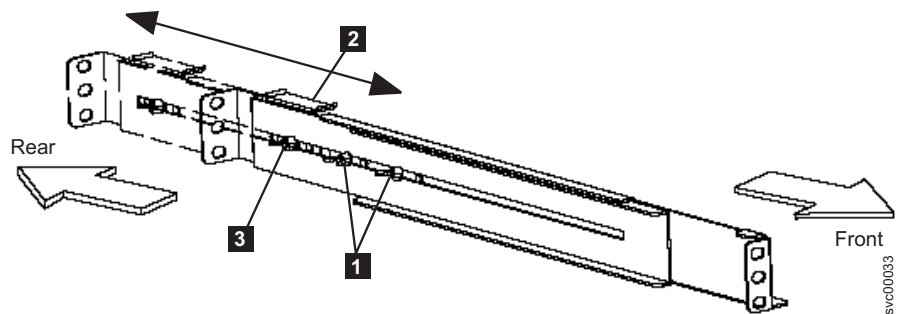

Figure 279. Adjusting the rail depth on the 2145-1U uninterruptible power supply
4. Loosen the assembly wing nuts (**1** in Figure 279) on both rail assemblies and adjust the rail size to the depth of your rack.
5. Position the rear, hold-down bracket (**2** in Figure 279 on page 603) towards the end of the rail assemblies and tighten the wing nut (**3** in Figure 279 on page 603).